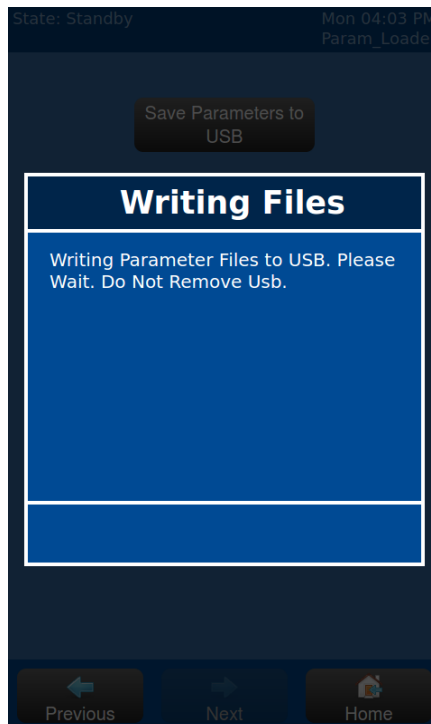

Figure I-2:
- 9) While in progress, the NURO will display the current status [Figure I-2].